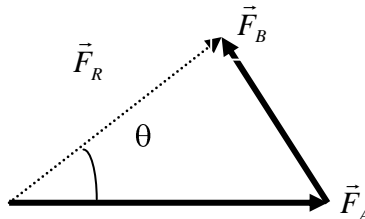

Figure 1.3: Adding vectors head to tail
**C-) Graphical Method:** Two forces are added together by drawing them to scale using a ruler and protractor. The second ( $\vec{F}_B$ ) is drawn with its tail to the head of the first force ( $\vec{F}_A$ ). The resultant ( $\vec{F}_R$ ) is drawn from the tail of the  $\vec{F}_A$  to the head of  $\vec{F}_B$  as shown in Fig.1.3. Then the magnitude of the resultant can be measured directly from the diagram and converted to the proper force using the chosen scale. The angle can also be measured using the protractor.